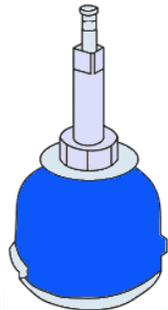

Figure 13 - Wask Fitting Head and With Spindle Attached
12. When drilling and tapping is complete withdraw the drill spindle (3) and retain in raised position with securing pin.
14. The gas pressure in the drill head (1) must now be vented by pressing the vent button.
17. Keeping the button depressed rotate the drill head (1) anti-clockwise using the large spanner provided.
20. Take the carrier spindle and the fitting to be installed and slide into the fitting head (Figure 13).